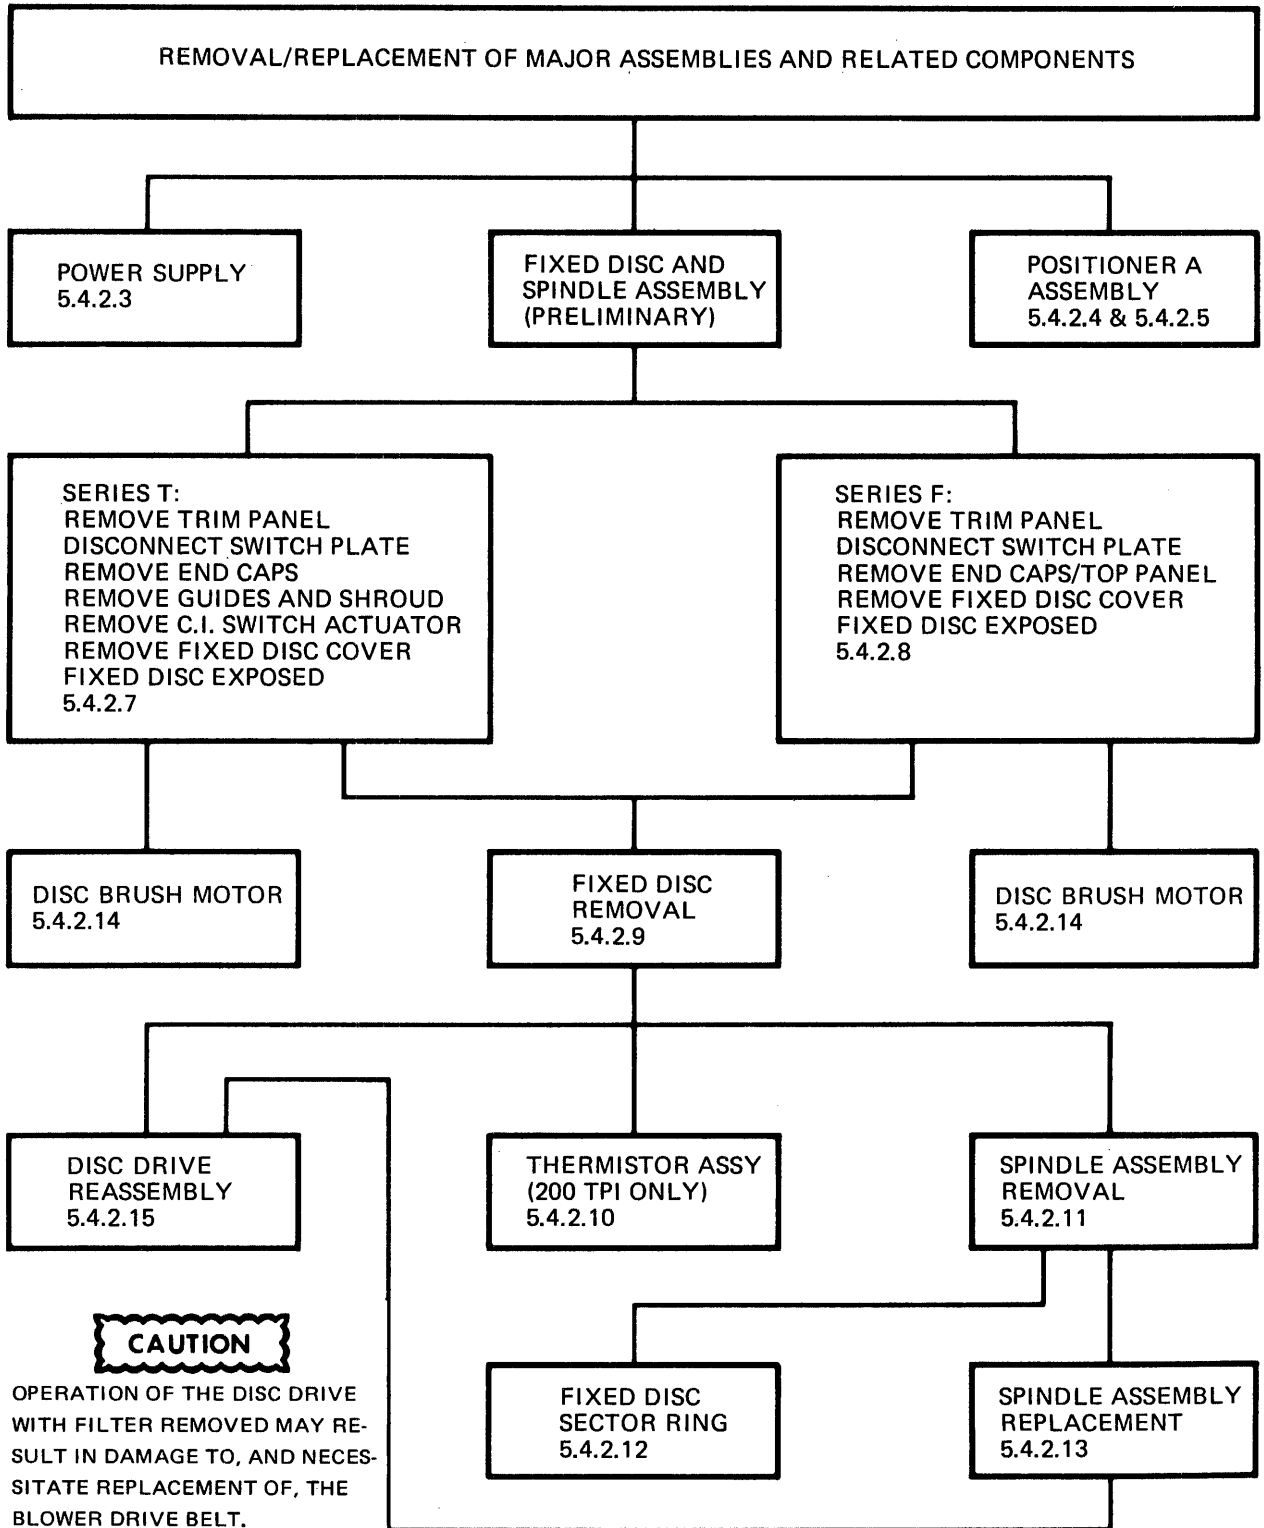

Figure 5-8. Removal/Replacement Guide – Major Assemblies
5.4.2.1 Introduction. In the following paragraphs, the procedures for removal of major assemblies for servicing or exchange are outlined in detail. The chart in Figure 5-8 summarizes the operations and their sequence. This chart indicates that where the disc is involved, the removal operations preceding the disc removal differ somewhat between the Series F and Series T Disc Drives.